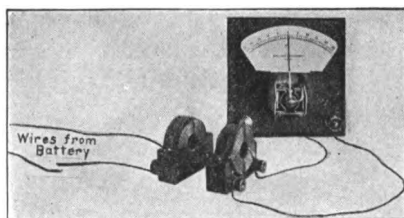

FIG. 221.—CURRENT INDUCED BY MAKING AND BREAKING THE CIRCUIT
**245. Effect of Opening and Closing the Circuit in the Solenoid.** If now the current-carrying coil is placed near the other (Fig. 221) and the